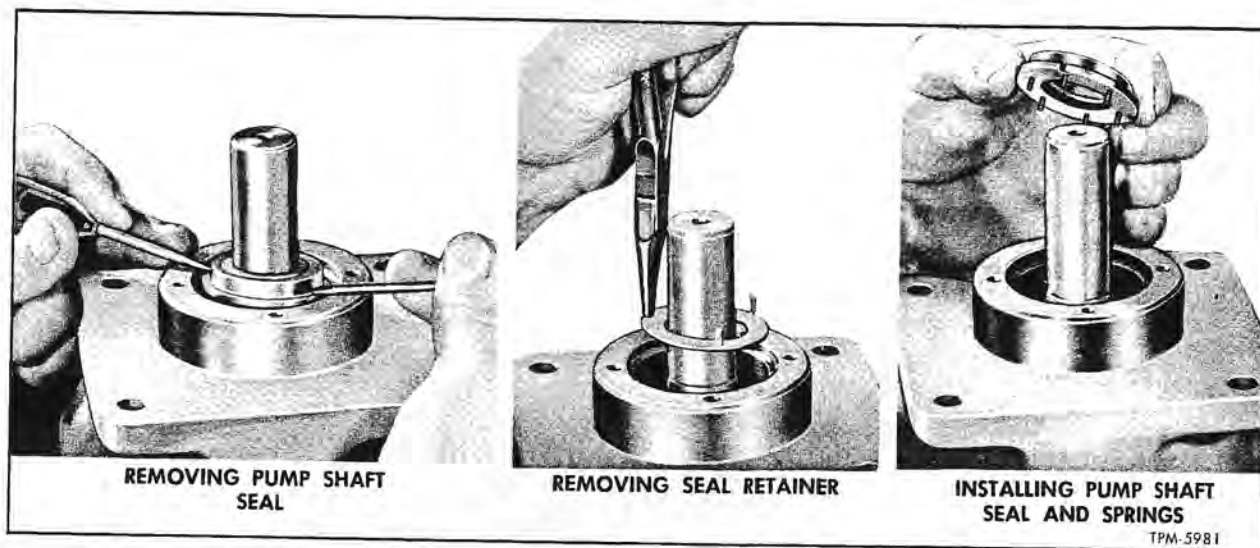
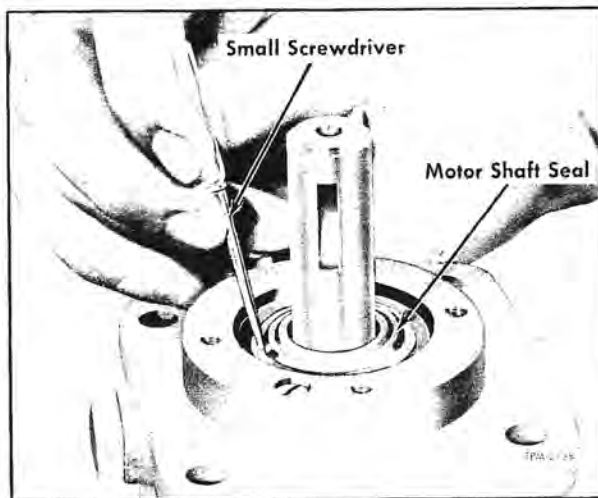

Figure 37—Pump Shaft Seal Replacement Views
Figure 39—Method of Removing Motor Shaft Seal
2. Slide small metal slinger (1) and small lathe cut washer (2) from pump shaft. Separate washer from slinger.
3. Remove four screws (4) and washers which attach seal support (3) to pump housing. Lift support from housing, then remove lathe cut washers (5 and 6) from underside of support.
4. Remove housing seal (7) and pump shaft seal (8) using flats of two small screwdrivers as shown in left view of figure 37. Be careful not to lose six small springs (1) in shaft seal. Remove O-ring (9) from internal groove of shaft seal (8).
5. Grasp pump shaft seal retainer (11) by one of its prongs with needle nose pliers and lift out as shown in center view of figure 37.
2. Lower seal retainer (2) over shaft and rotate until retainer flats seat or align with flats on pump shaft.
3. Install O-ring (9) into internal groove of pump shaft seal (8). Fill six spring cavities in shaft seal (8) with clean grease to retain springs (10). Place springs in seal cavities. Referring to right view of figure 37, install seal with springs over shaft end and match three slots on seal collar with three prongs of seal retainer (11).
4. Making sure clean film of fluid covers seal contact surfaces, place pump housing seal (7) over shaft to shaft seal.
5. Install lathe cut washer (6) into groove between outer circumference of housing seal and pump housing seal opening. IMPORTANT: DO NOT STRETCH WASHER. Use of shim stock will facilitate installing of washer.
6. Position lathe cut washer (5) into groove at back side of seal support (3), then position seal support over shaft to housing. Make sure housing seal (7) and washers (5 and 6) remain in position. Install seal support attaching screws with washers (4) loosely.
7. Insert small lathe cut washer (2) into pump slinger (1), then locate slinger with washer over end of shaft and up against seal support (3). Making sure slinger washer is contacting support, final tighten the four seal support attaching screws.
3. Slide small metal slinger (13) and lathe cut washer (12) from motor shaft.
4. Remove four screws (14) with washers (15) which attach seal support (11) to motor. Lift seal support from motor, then remove lathe cut washers (10 and 9).
5. Referring to figure 39, press downward around outer surface of housing seal (8) and shaft seal (7). Seals should pop up out of motor recess. Left view of figure 37 shows method of removing seals using flats of two small screwdrivers.
6. Remove O-ring (6) from internal groove of shaft seal (7).
7. Remove seal spring (5) from housing recess.
8. Using No. 2 Tru-Arc snap ring pliers, remove retaining ring (4) and remove thrust washer (3) from motor shaft. Using needle-nose pliers, lift spring retainer (2) from shaft.